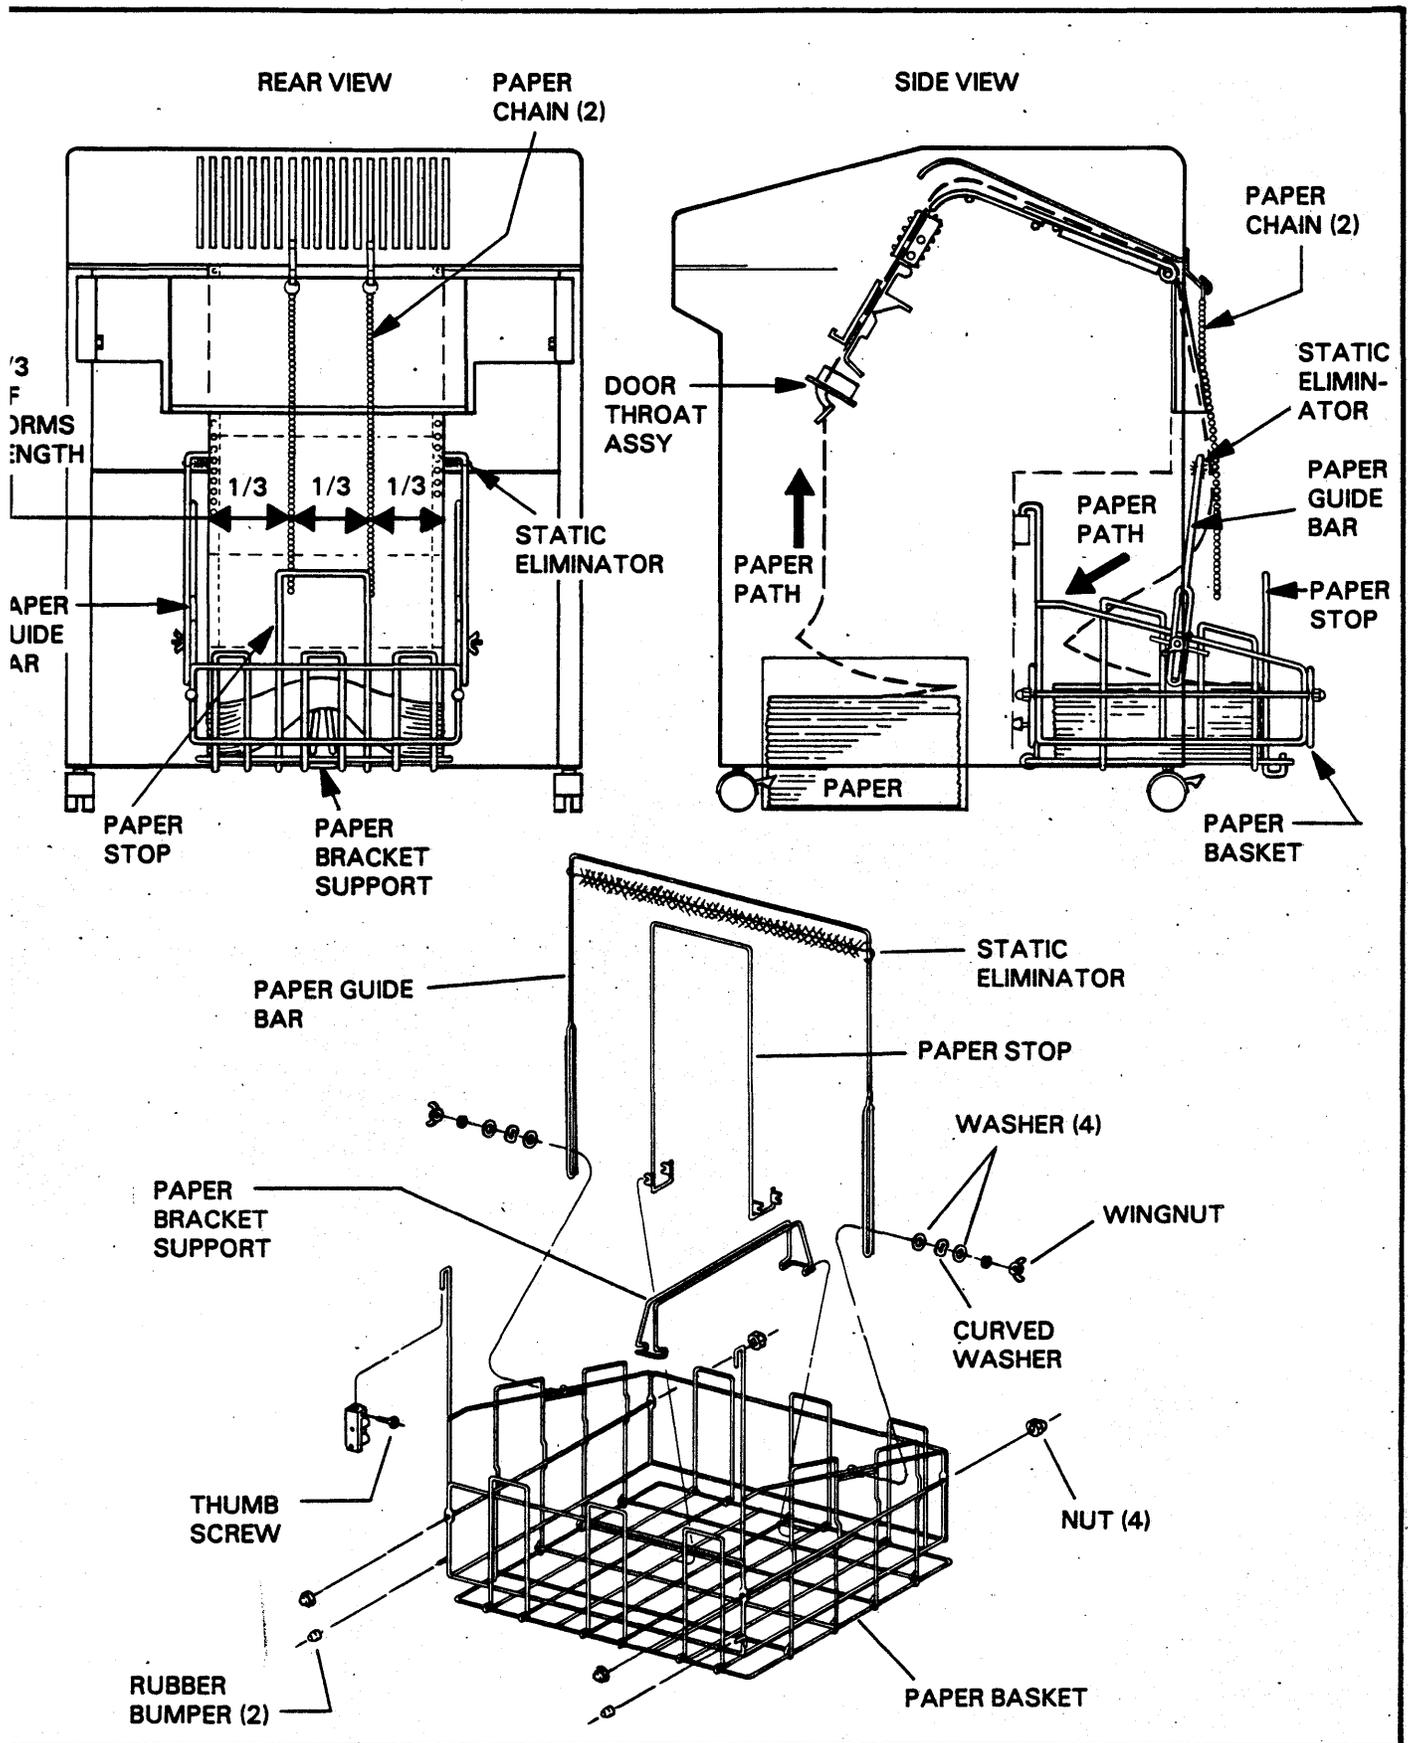

FIGURE 1-3. PAPER BASKET INSTALLATION AND SET-UP
4. Install and set up the paper platform or paper basket if provided. See Figure 1-3. Read Paper Basket Installation for the explanation of the basket accessories. The paper platform is installed such that the wires that run perpendicular to the edge of the paper are facing up. This allows the paper to slide along the wires when the paper contacts the paper platform. If the paper platform is installed up-side-down, the paper will catch on the wires as it enters the paper platform.
The optional paper basket mounts on the back of the printer. The thumb screw on each mounting bracket is loosened and the mounting hook on the basket slips down in a hole in the top of the mounting bracket. See Figure 1-3. The thumb screws on both mounting brackets are tightened to secure the paper basket.
The paper basket and accessories are installed and mounted as shown in Figure 1-3. Not all accessories are supplied with each basket. The accessories vary with the type of unit because of design differences between 400 LPM and 800 LPM printers. The following will describe the use of the accessories and their function.